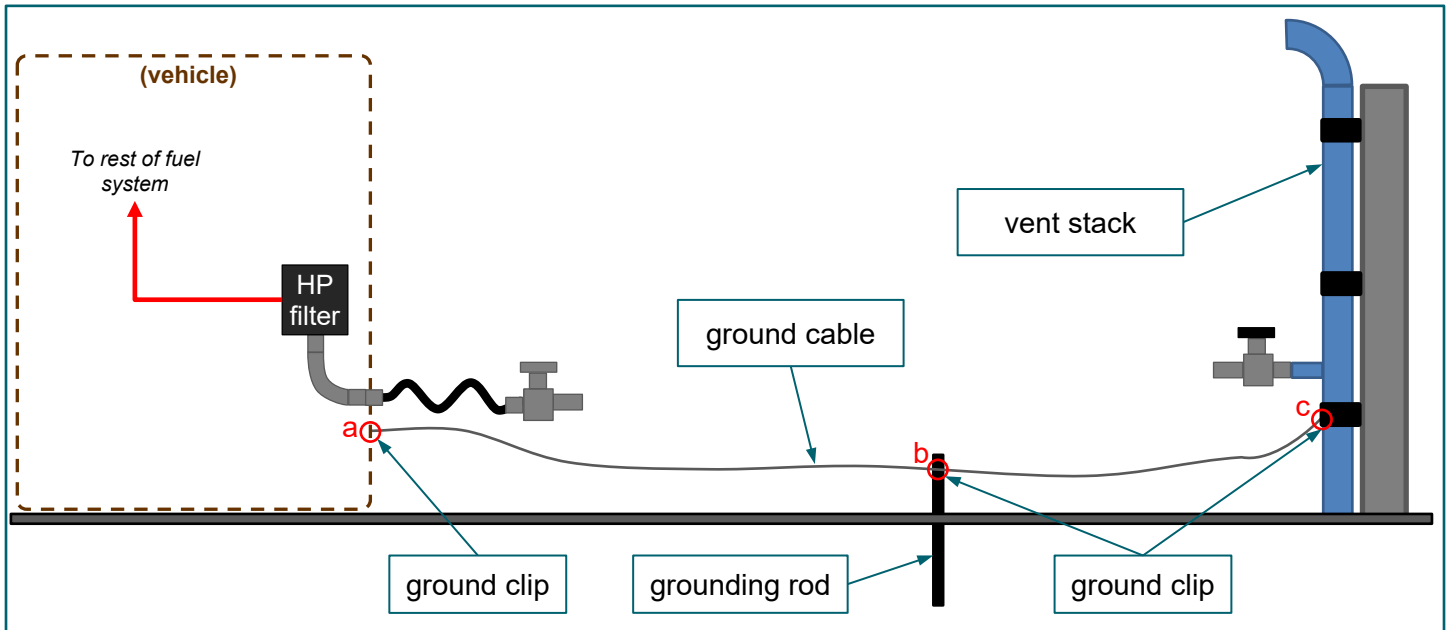

FIGURE 3–17. Ground cable clip locations: (a) vehicle, (b) grounding rod, (c) vent stack
20. If using ground cable from Hexagon Agility p/n 69500019 defuel kit: Detach ground cable clips (locations circled) from vehicle ground, grounding rod (if present), and vent stack ground. **FIGURE 3–17**